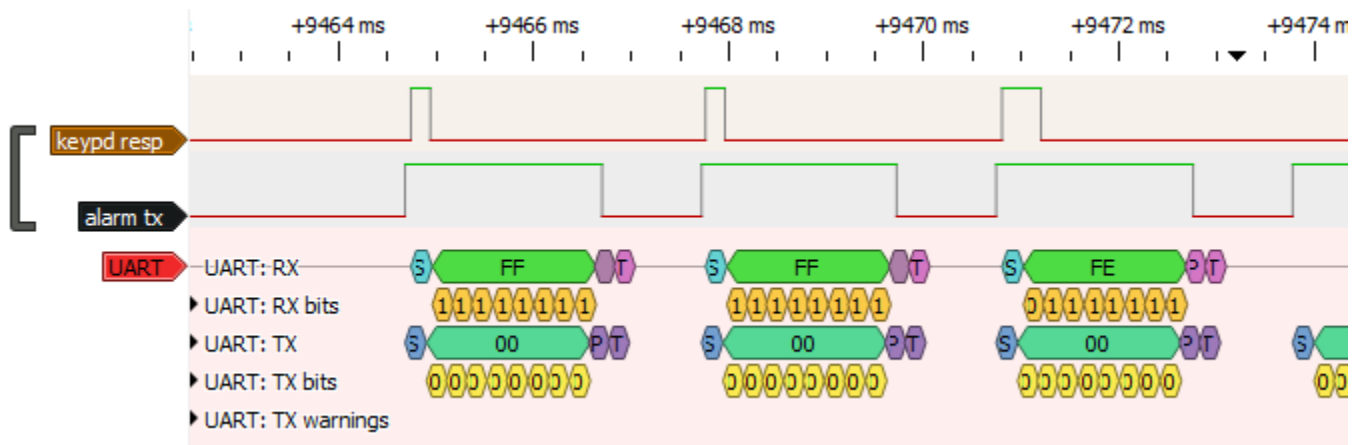

Figure 2 - Keypad Polling Cycle Expanded
During the third 0x00 transmit by the alarm, each keypad transmits a byte with its own address bit low. In the trace pictured in Figure 2, the received 0xFE (lsb zero) indicates that lowest address keypad (16) is responding. If more than one keypad is responding to the polling request, more than one bit position may be low in this received byte.